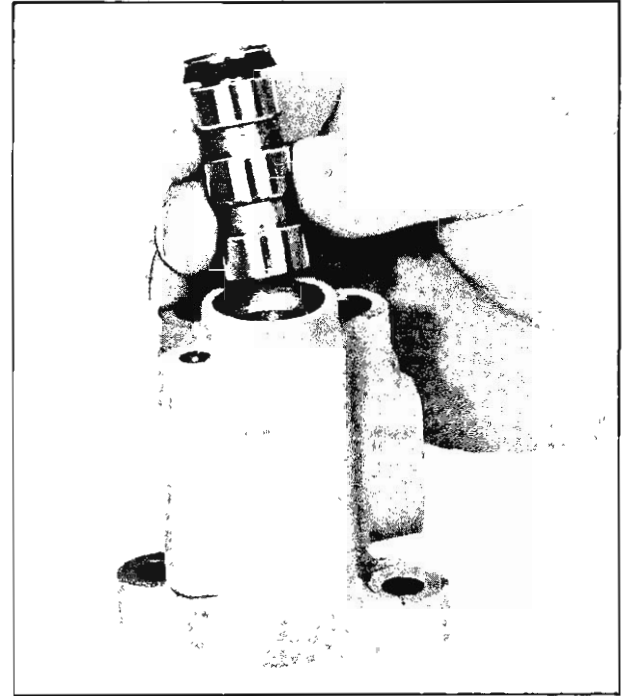

Fig. 80—Removing Spool from Housing
4. Remove spool from housing (fig. 80).
6. Install the seal on the valve spool (lip down), then install spool in housing (fig. 80) being careful not to jam spool in housing